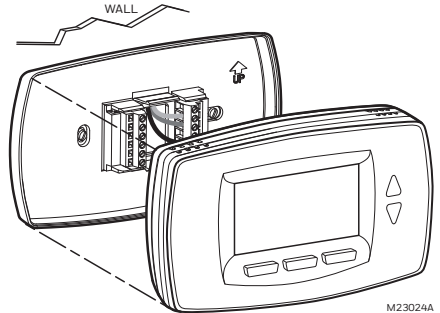

Fig. 24. Mount thermostat to wallplate.
2. Push the thermostat straight onto the wallplate until it snaps into place. See Fig. 24.